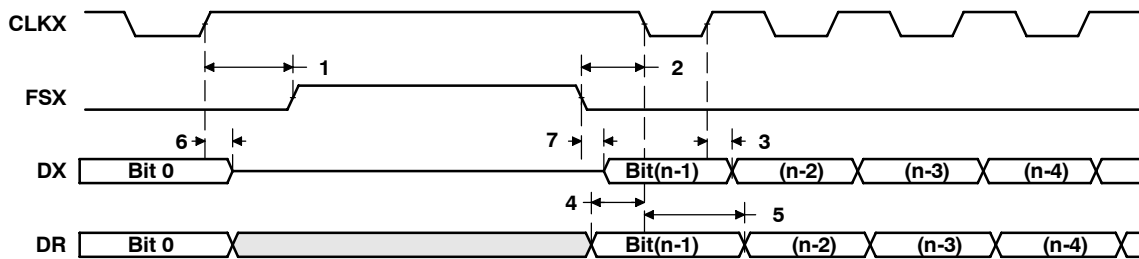

Figure 53. McBSP Timing as SPI Master or Slave: CLKSTP = 11b, CLKXP = 1
**timing requirements for McBSP as SPI master or slave: CLKSTP = 11b, CLKXP = 1†‡ (see Figure 53)**
**switching characteristics over recommended operating conditions for McBSP as SPI master or slave: CLKSTP = 11b, CLKXP = 1†‡ (see Figure 53)**